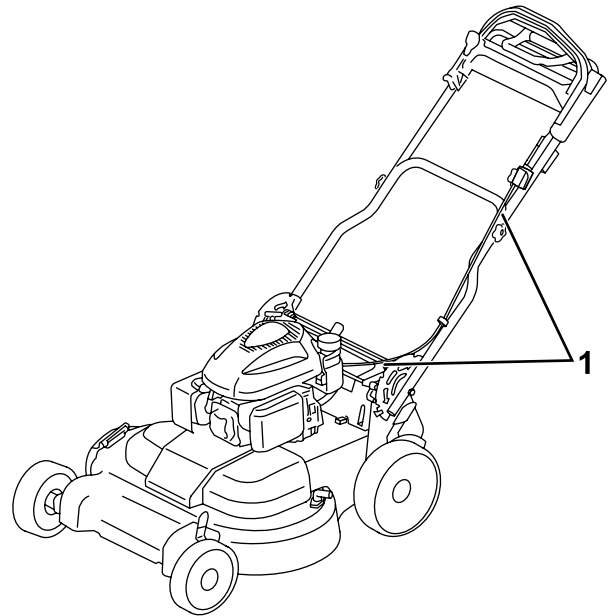

Figure 17
11. Attach 2 cable ties at the indicated locations shown in Figure 17.